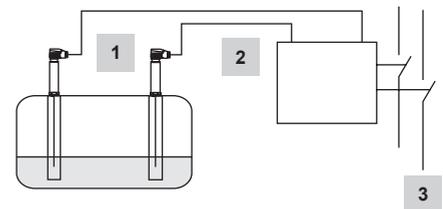

Fig. 9
- Fig. 9** Combination consisting of 1 level probe LP40 and 1 level switch LCS3050 as water level limiter and 1 level probe LP40/1 level switch LCS3050 as first low-level alarm. Functional safety IEC 61508, SIL 3. Further applications in accordance with national sets of regulations